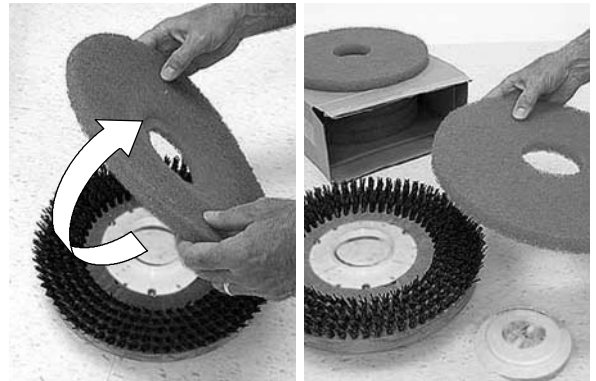

FIG. 48
- Rotate pad or replace when worn (Figure 48).